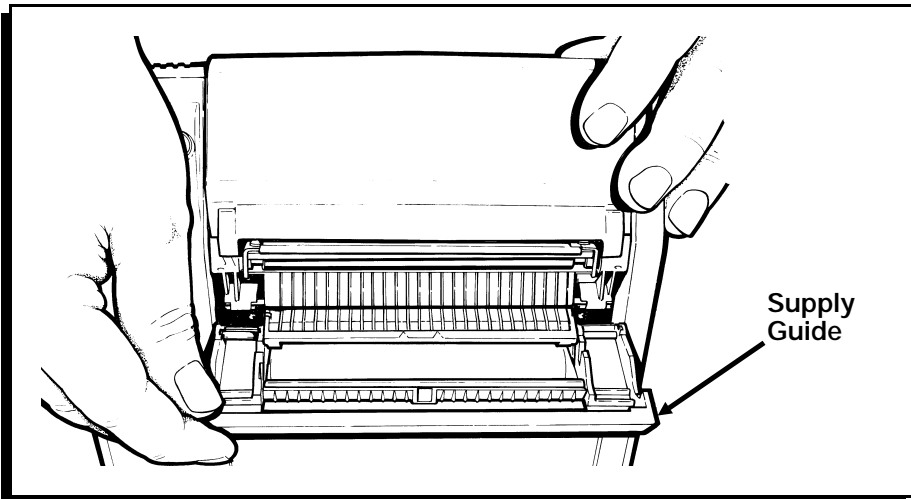

Figure 22
2. Pull the supply guide forward and down as shown. (Figure 22.)